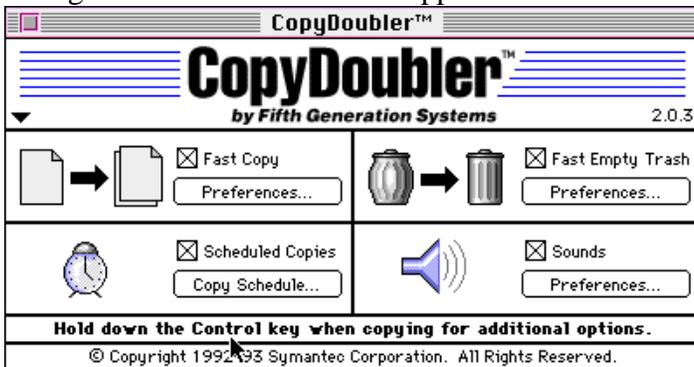

Figure 2
3. Depending on the version (notice the instructions the cursor is pointing at in Figure 2) you will have to hold down the control key or the ___ and option keys when you copy.
4. Make sure the **Fast Copy** box shown in the dialogue box in Figure 2 is checked. Push the **Preferences...** button (the one below the words Fast Copy). You will see the following dialogue box:
14. In case you make a mistake or want to change your password or want to stop backing up... go your Apple Menu (🍏 top left of your screen), go to **Control Panels: CopyDoubler** and the dialogue box shown in Figure 2 will appear. Press the **Copy Schedule...** button shown in Figure 2. The following dialogue box will appear: